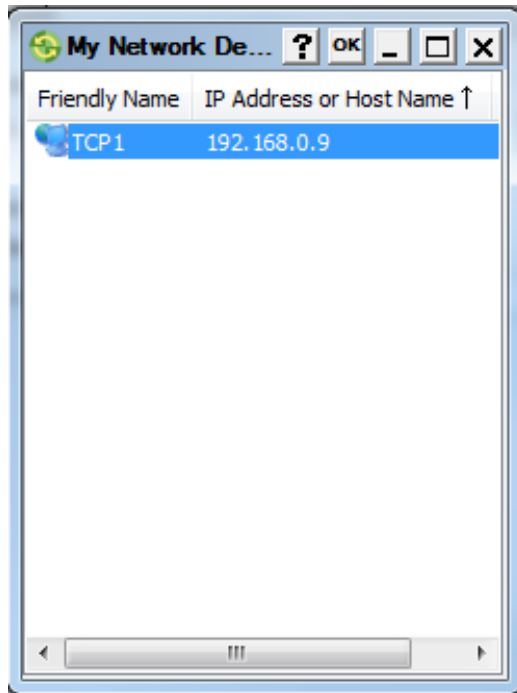

Figure 24: My Network Devices – Ethernet Device
- If needed, click the Browse icon  to the right of **Port Name** to choose a port from the **My Network Devices** screen, and click **OK** (Figure 24). The **Connection Parameters** screen appears.